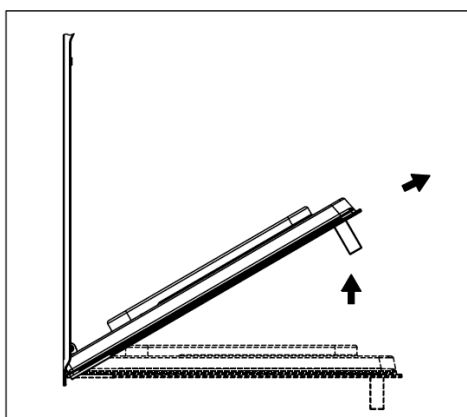

Fig. 2
- > Now, shutting the door slightly, you can lift it out by pulling out the hooks “A” as shown in figure 2.